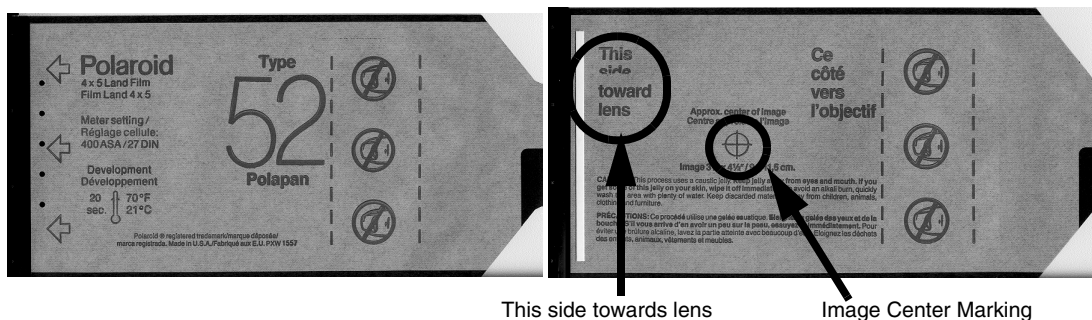

Figure 3-8 Polaroid Film, Type 52
- Type 52 Polaroid Film (see Figure 3-8)
Orient the side of the film side marked “**This side toward lens**” towards isocenter, see Figure 3-8. When exposed and developed, the film shows the alignment of the two beams with respect to the table, as viewed from the X-Ray tube in the 3:00 o'clock position.